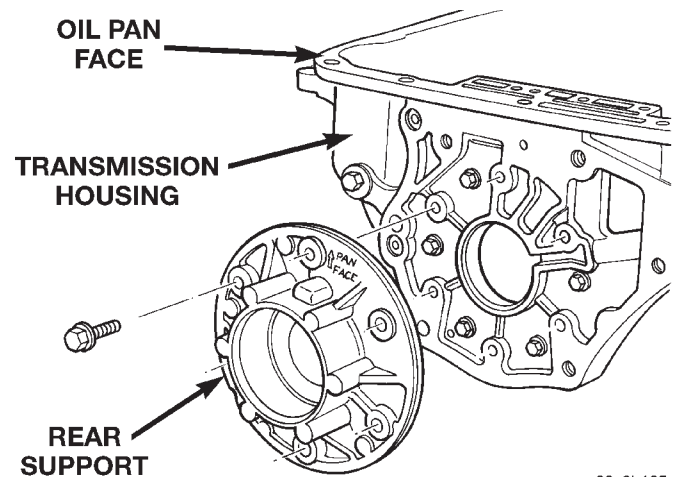
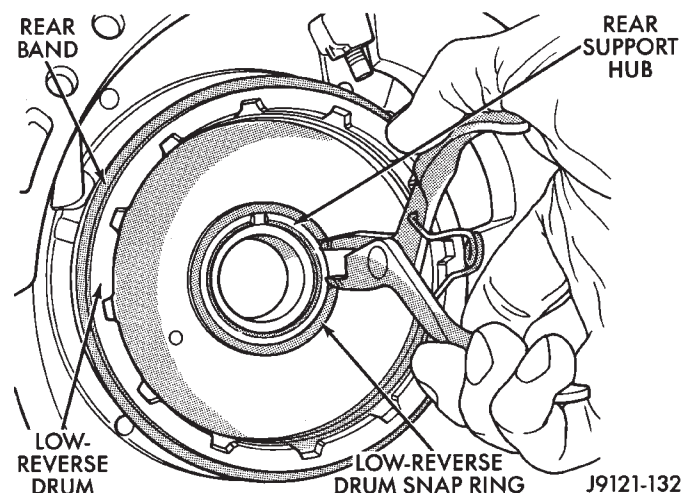

Fig. 94 Rear Support
Fig. 95 Low-Reverse Drum Snap Ring
(6) Lubricate overrunning clutch rollers, springs and cam with Mopar® ATF Plus 3, type 7176, transmission fluid.
(7) Position overrunning clutch on a clean, flat work surface with countersunk holes downward.
(8) Place rear of low-reverse drum over overrunning clutch and align clutch rollers to hub of drum.
(9) While slightly pivoting low-reverse drum, push hub of drum into overrunning clutch. Verify that countersunk holes are facing outward. **Cam should be able to rotate in the drum clockwise only.**
(10) Insert a suitable awl through the rear support mounting hole closest to the pan sealing face. The awl should be next to the wide space area at the back of transmission case.
(11) Insert low-reverse drum and overrunning clutch into front of transmission case and into rear band.
(12) Insert awl tip into the threaded hole next to the non-threaded hole in the overrunning clutch cam. Verify that non-threaded hole is aligned with wide space area on transmission case.
(13) Push low-reverse drum rearward to close gap between cam and case.
(14) Install overrunning clutch cam bolts. **Clutch cam bolts are shorter than rear support bolts.** Tighten cam bolts to 17 N·m (150 in. lbs. or 13 ft. lbs.) torque.
(15) Hold low-reverse drum in position so rear support will not push it out of overrunning clutch.
(16) Insert rear support into opening at rear of transmission case (Fig. 94).
(17) Align support with the embossed arrow in the direction of the pan face.
(18) Install and tighten rear support bolts to 17 N·m (150 in. lbs.) torque.
(19) Install snap ring to retain low-reverse drum to hub of rear support (Fig. 95).